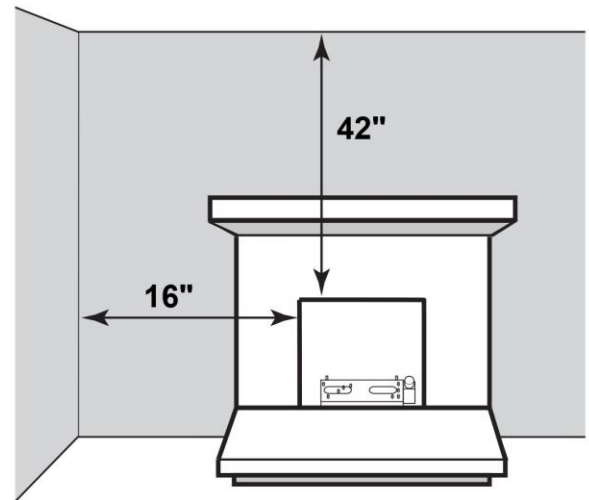

Figure 5 – Minimum Clearance to Combustibles
**⚠ WARNING:** Maintain the minimum clearances shown in Figure 5. If you can, provide greater clearances from floor, ceiling, and joining wall.